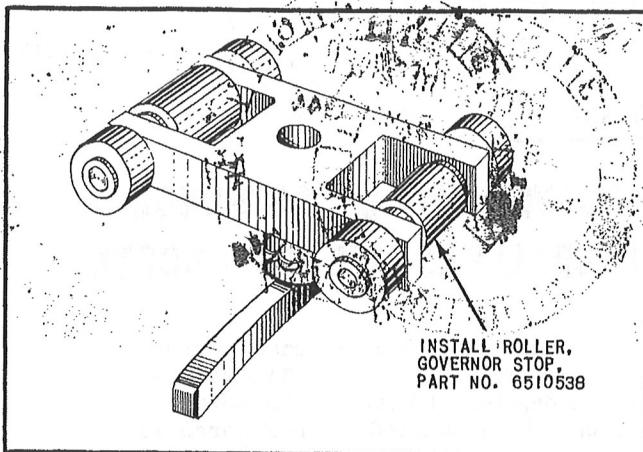

Figure 3
(1) Install the new governor stop roller, part No. 6510538, on the roller pin, and reinstall the two governor carriage rollers. (See figure 3.)